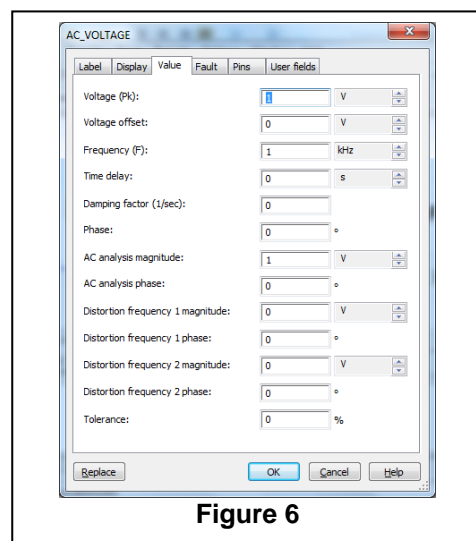

Figure 6
- Finally, double click on the AC voltage generator symbol to open the **AC_VOLTAGE** dialog box, as in figure 6 below. Check that **Voltage (pk): 1 volt, Frequency (F): 1 kHz**. These are the default values so you don't need to change them at the moment.